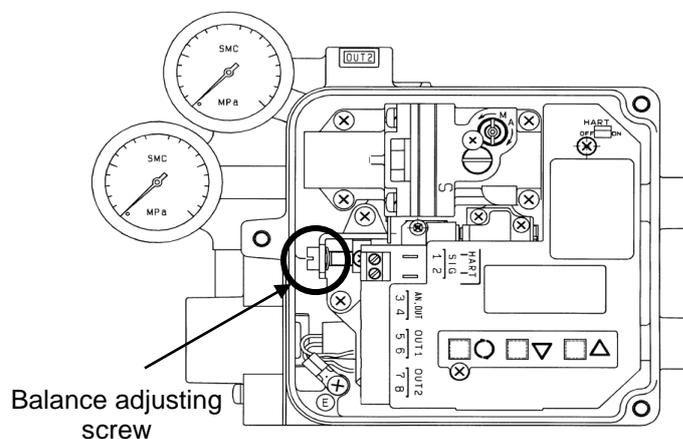

Fig. 18
*7: For the balance adjusting screw position, refer to Fig. 18. Adjustments must be made with a flat blade driver. Counterclockwise rotation decreases pressure and clockwise rotation increases pressure.